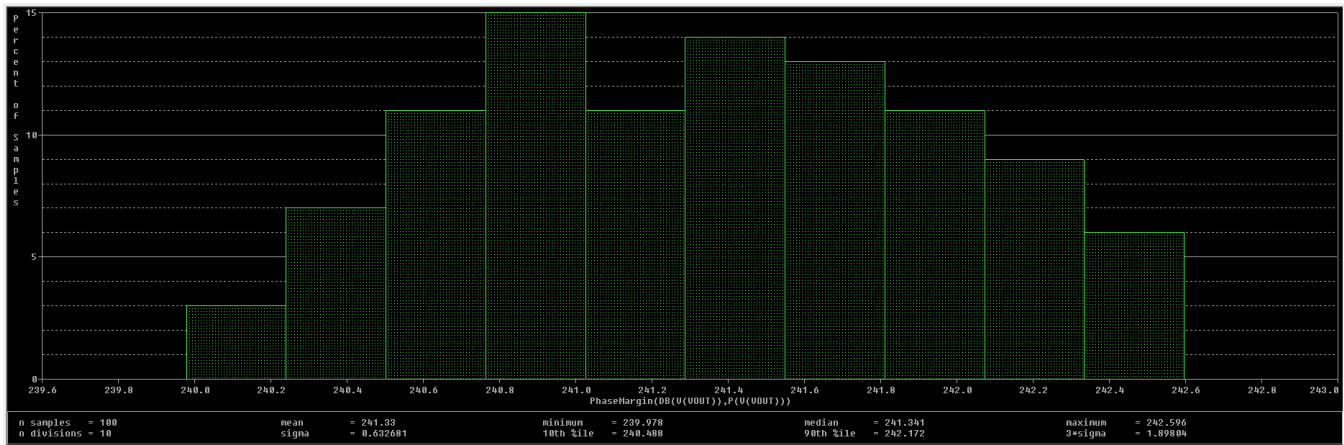

Figure 5. Frequency Response Histogram
3. Copy the expression **PhaseMargin(DB(v(vout)),P(v(vout)))** into the *Trace Expression* field and click "OK". This will generate the histogram for the frequency response as shown in Figure 5.